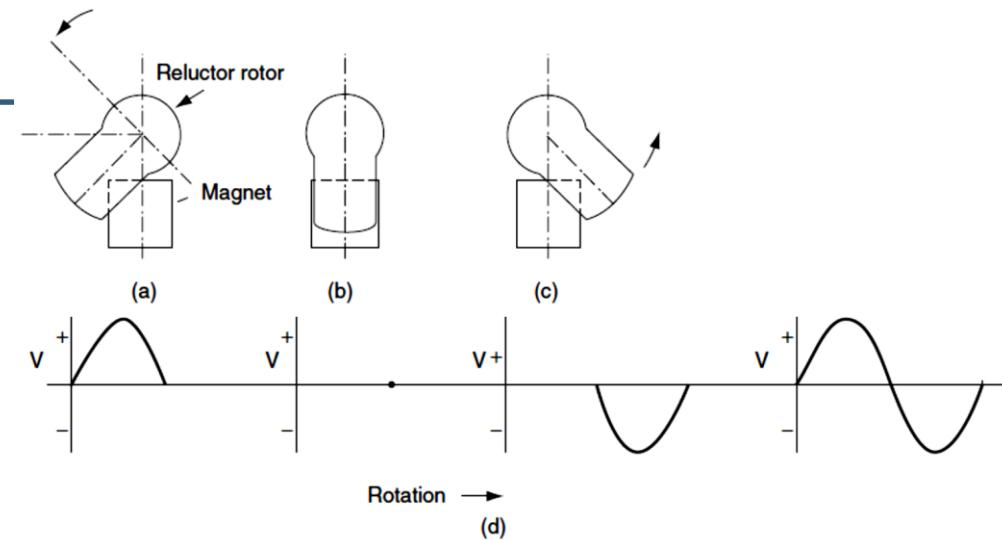

Fig. 5.2 The voltage pattern from a variable reluctance sensor
- As the tab moves into the air gap the flow of magnetism (flux) increases rapidly. This causes the sensor voltage to increase, quite quickly, to a maximum positive value. Figure 5.2 shows the approximate behavior of the voltage output as the reluctor is rotated.
- Figure 5.2(a) shows the reluctor tab moving into the air gap. As the metal tab moves further into the gap the voltage begins to fall and, when the metal tab is exactly aligned with the pole piece, the sensor voltage falls back to zero (Although the magnetic flux is strongest at this point, it is not changing and this means that the voltage is zero.)
- This results in the negative half of the voltage waveform as shown in Fig. 5.2(c). When the tab has moved out of the air gap the sensor voltage returns to zero. While the rotor shaft continues to turn another tab will enter the air gap and the above process will be repeated.
- If the sensor coil is connected to an oscilloscope the pattern observed will be similar to that shown in Fig. 5.2(d).